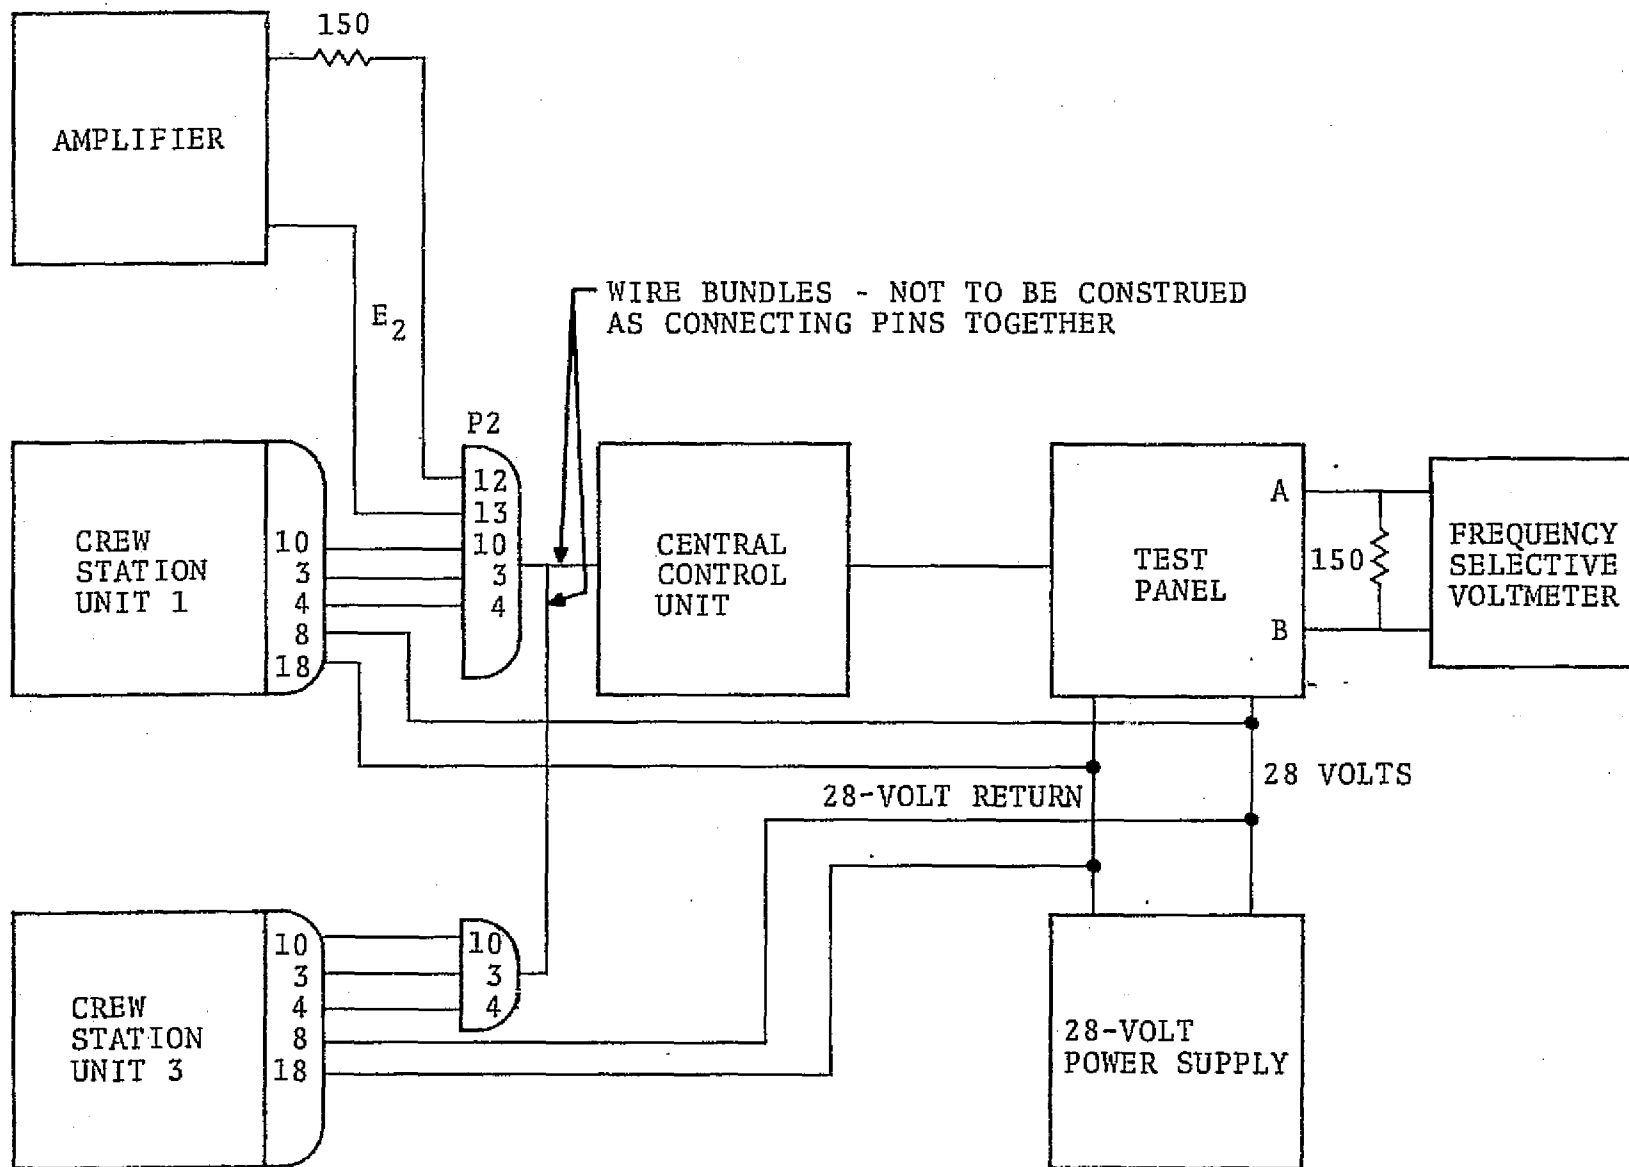

Figure 5-2. - Transmit section isolation test setup.
1. Connect the equipment as shown in figure 5-2, using plugs P-2 and P-3.